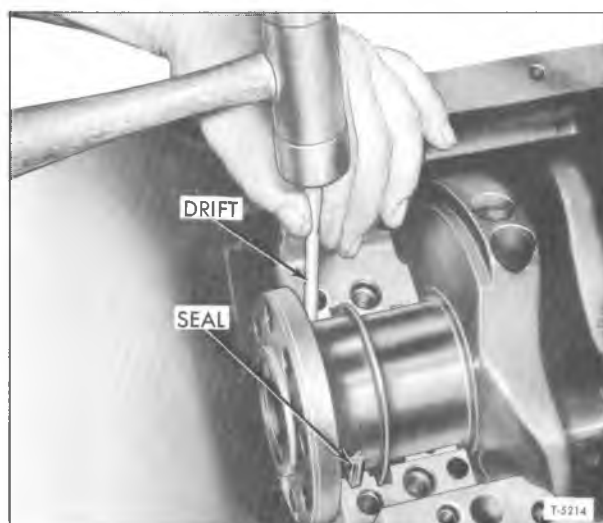

Figure 17—Removing Seal Upper Half from Block
3. Use a drift of soft metal (aluminum, copper or brass) to start the seal upper half out of cylinder block (fig. 17).